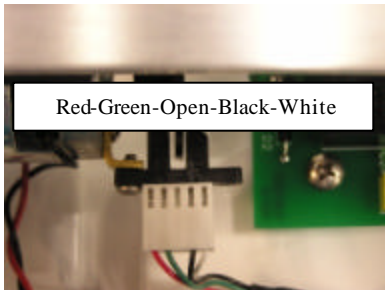

fig 10
9. Attach the 5-pin connector shown in fig 10 to the optical sensor.